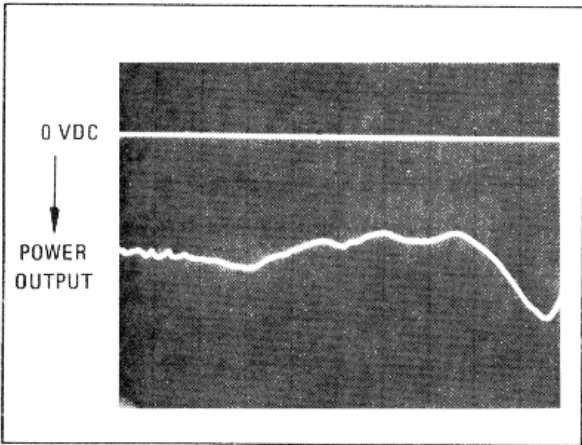
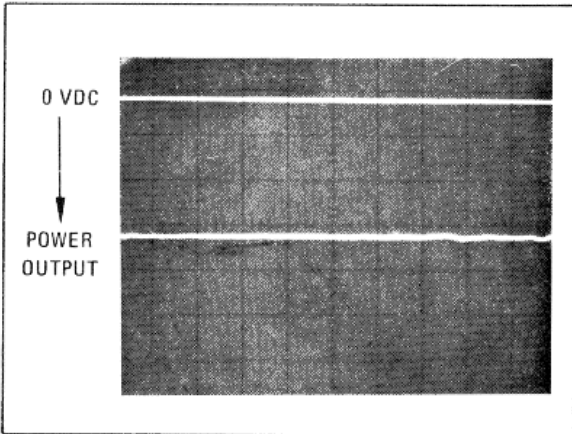

Figure 3-4. Unlevelled RF Power Output
Figure 3-5. Levelled RF Power Output
3. Check that RF Plug-in is sweeping correctly. This is indicated by a continuous signal line on oscilloscope similar to Figure 3-4
4. Adjust ALC GAIN 11 and POWER LEVEL 10 controls fully clockwise for maximum RF power and maximum external preamplifier gain. One of the conditions shown in Figure 3-4 through 3-6 should be displayed on oscilloscope. If trace is unlevelled, as shown in Figure 3-4, or just partially leveled and UNLEVELED light is on, turn POWER LEVEL 10 control counterclockwise to reduce power output until trace is level across band as shown in Figure 3-5. If external preamplifier gain is too high, oscillations may occur as shown in Figure 3-6. To remove oscillations, reduce external preamplifier gain by turning ALC GAIN 11 control counterclockwise.
5. One of the conditions shown in Figure 3-4 through 3-6 should be displayed on oscilloscope. If trace is unlevelled as shown in Figure 3-4, turn POWER LEVEL control 10 counterclockwise to reduce power output until trace is level across band as shown in Figure 3-5. If loop gain is too high, oscillations may occur as shown in Figure 3-6. To remove oscillations, reduce gain by turn ALC GAIN control 11 counterclockwise.